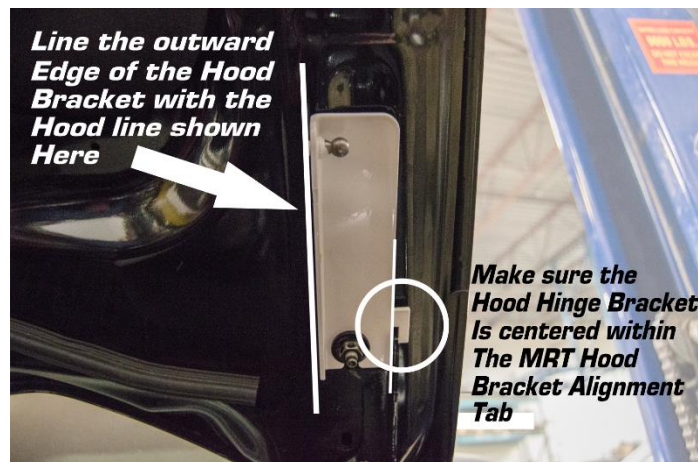

Figure 3
- 3.) Position the LH MRT mounting bracket so the outer ridge of the OE hinge bracket is centered within the alignment tab. Slide the LH MRT mounting bracket under the loosened 13mm nut. Once you ensure the bracket is fully pressed in place, tighten the 13mm nut. (fig 3)